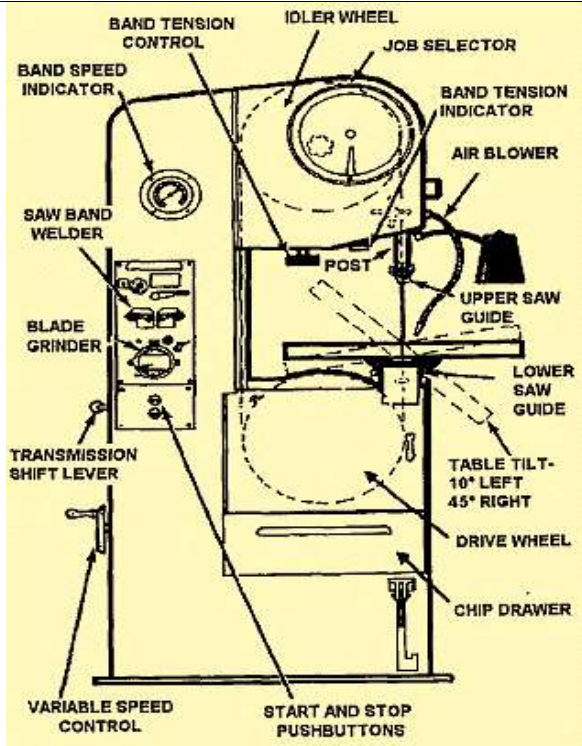

Figure 6-2. Vertical bandsawing
- Vertical machines (Figure 6-2)
The metal-cutting vertical bandsawing machine, also called a contour machine, is made in a variety of sizes and models by several manufacturers. The size of a contour machine is determined by the throat depth, which is the distance from the saw band to the column. Figure 6-2 shows a typical contour machine and identifies its main parts, which are discussed below.